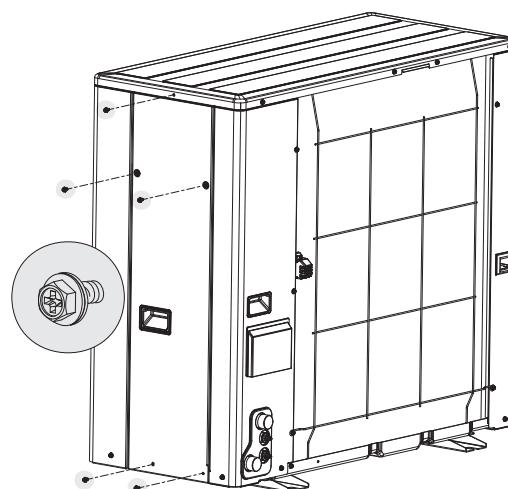

Figure 47. Heat Pump - Side Panel Removal
- Remove service panel, *Figure 47*, and inspect the following:
To access the refrigerant circuit pipework and the electrical components, the side panel can be taken off by removing the 5 screws shown in *Figure 47*.
4. Remove service access covers, refer to *Figure 47*.